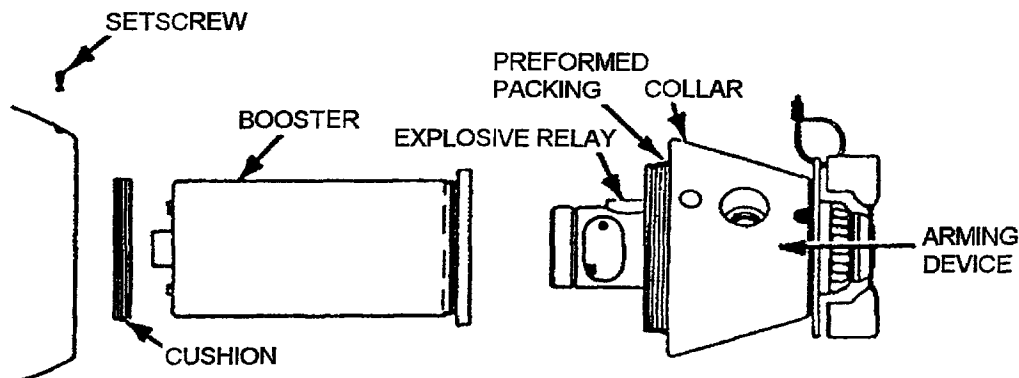

Figure 4-14J. Arming Device and Booster Installation
- d. Holding arming device and booster together, insert both into nose fuze well. Ensure cushion remains in place and booster seats securely onto cable assembly plug without snagging contact clips in booster connector (Figure 4-14J).
- e. Using a spanner wrench, tighten arming device to nose of bomb. Ensuring that the flat of the arming device collar bottoms on the flat on the nose of the bomb so as to obtain a watertight seal. On some bombs, the arming device collar may not contact the bomb at all points around the circumference of the collar, a condition which is acceptable. On the other hand, if the collar does not contact the bomb at any point around its circumference (Figure 4-14J), reject the bomb. Remove faceshield.